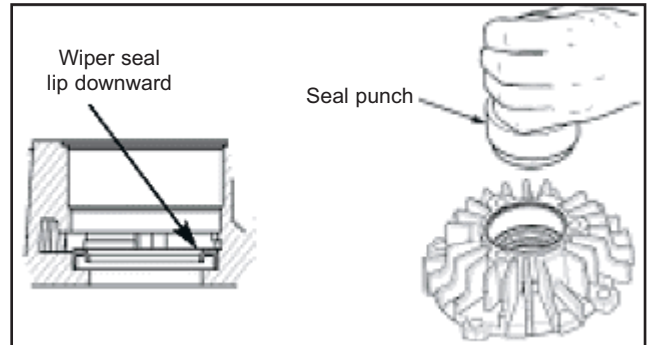

Figure 18
1. Before starting, place the sideplate (1) face down on a flat, clean surface. Take care not to scratch or damage the sideplate.
2. Using a properly sized seal punch, tap in a new wiper seal with the lip down, facing the rotor, to the full depth of the recess ; See figure 18.